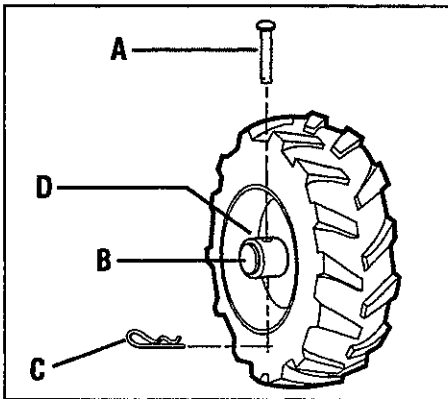

Figure 3-2: WHEEL DRIVE position.
Each wheel is equipped with a Wheel Drive Pin (A, Figures 3-2 and 3-3) that secures the wheel to the wheel shaft (B). The wheels can be positioned in either a WHEEL DRIVE or a FREEWHEEL mode.
3. Remove the hairpin cotter (C, Figures 3-2 and 3-3) and the wheel drive pin (A).
4. FOR WHEEL DRIVE mode (Figure 3-2): Slide the wheel outward on the wheel shaft (B, Figure 3-2) and insert the wheel drive pin (A) through the wheel hub (D) and the wheel shaft (B). The wheel is now locked to the wheel shaft. Install the hairpin cotter (C) on the wheel drive pin, pushing the hairpin cotter in as far as it will go. Repeat for the other wheel and remove the support from the unit.